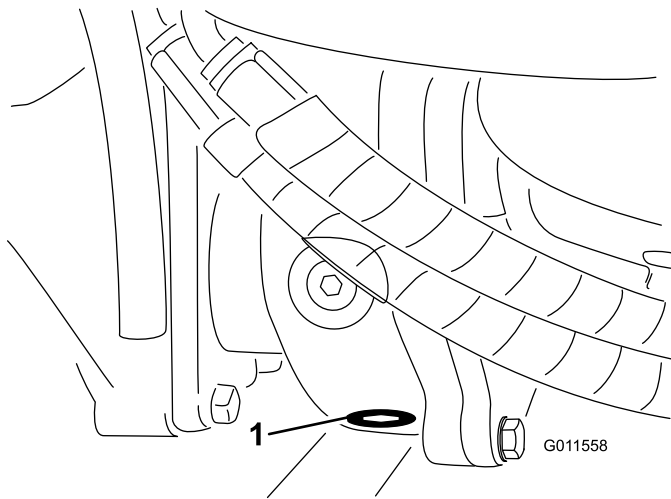

**Figure 66**
- Clean the area around the 3 drain plugs; 1 on each end and 1 in the center (Figure 66).